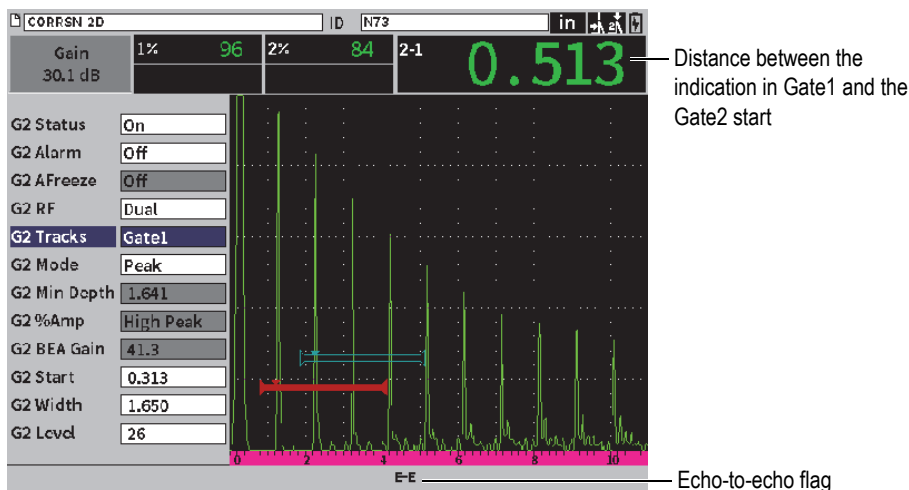

Figure 7-7 Echo-to-echo measurement example
5. Select the **Gate2** icon () , and then set **G2 Status** to **On** (see Figure 7-7 on page 100).